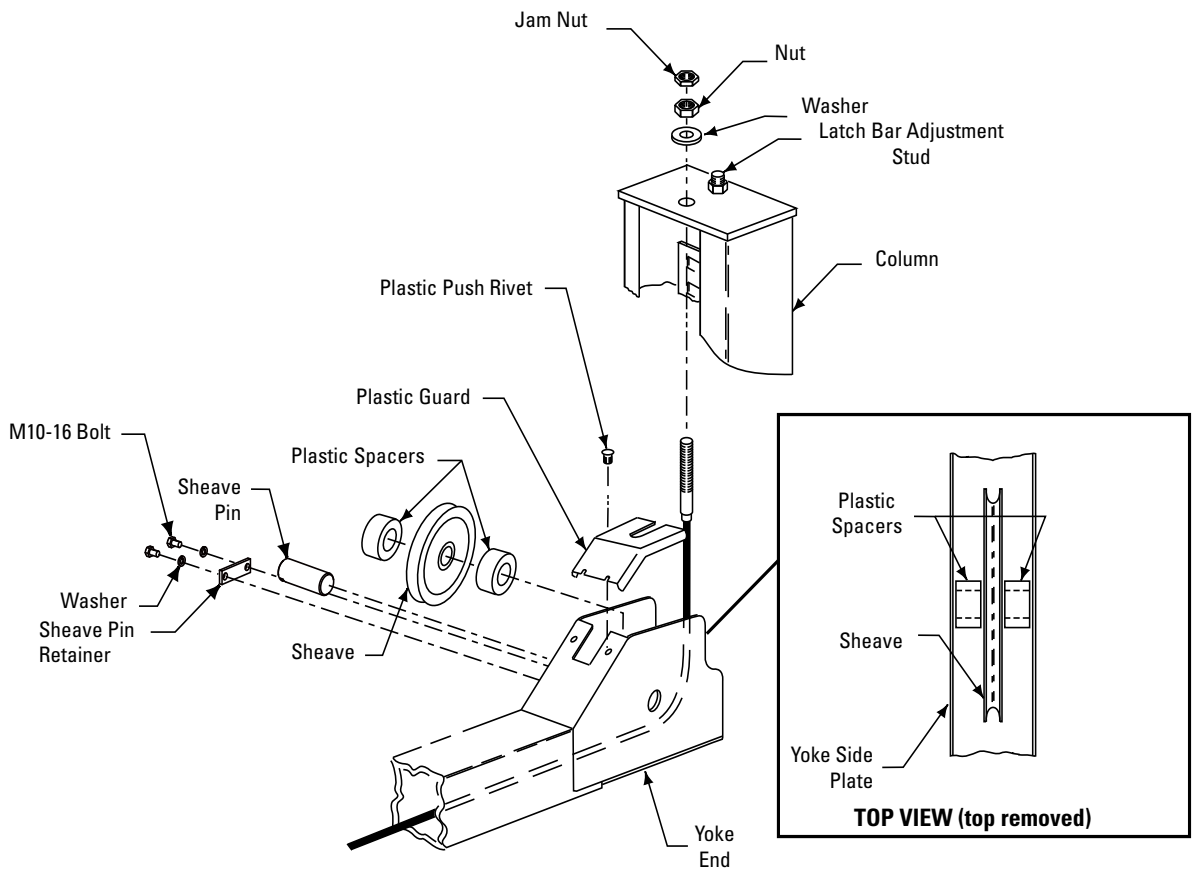

Fig. 8
- B. Retain sheave pin with (2) M10-16 bolts and sheave pin retainer. Attach each cable to column top plate with spacer, nut, and jam nut, Fig. 8. Install rubber sheave guard on each yoke end, Fig. 8. Roping diagram shows a view of completed roping, Fig. 9.
- G. Install yoke end sheaves and plastic spacers, Fig. 8. A plastic spacer is placed on each side of the sheave, inset Fig. 8.
Adjust cable with lift fully lowered. Loosen jam nut and tighten nut on cable stud on top of column until yoke end raises 1/4" (6mm). Back off nut one turn. Retighten jam nut. Repeat for all four cables. Refer to Fig. 8.